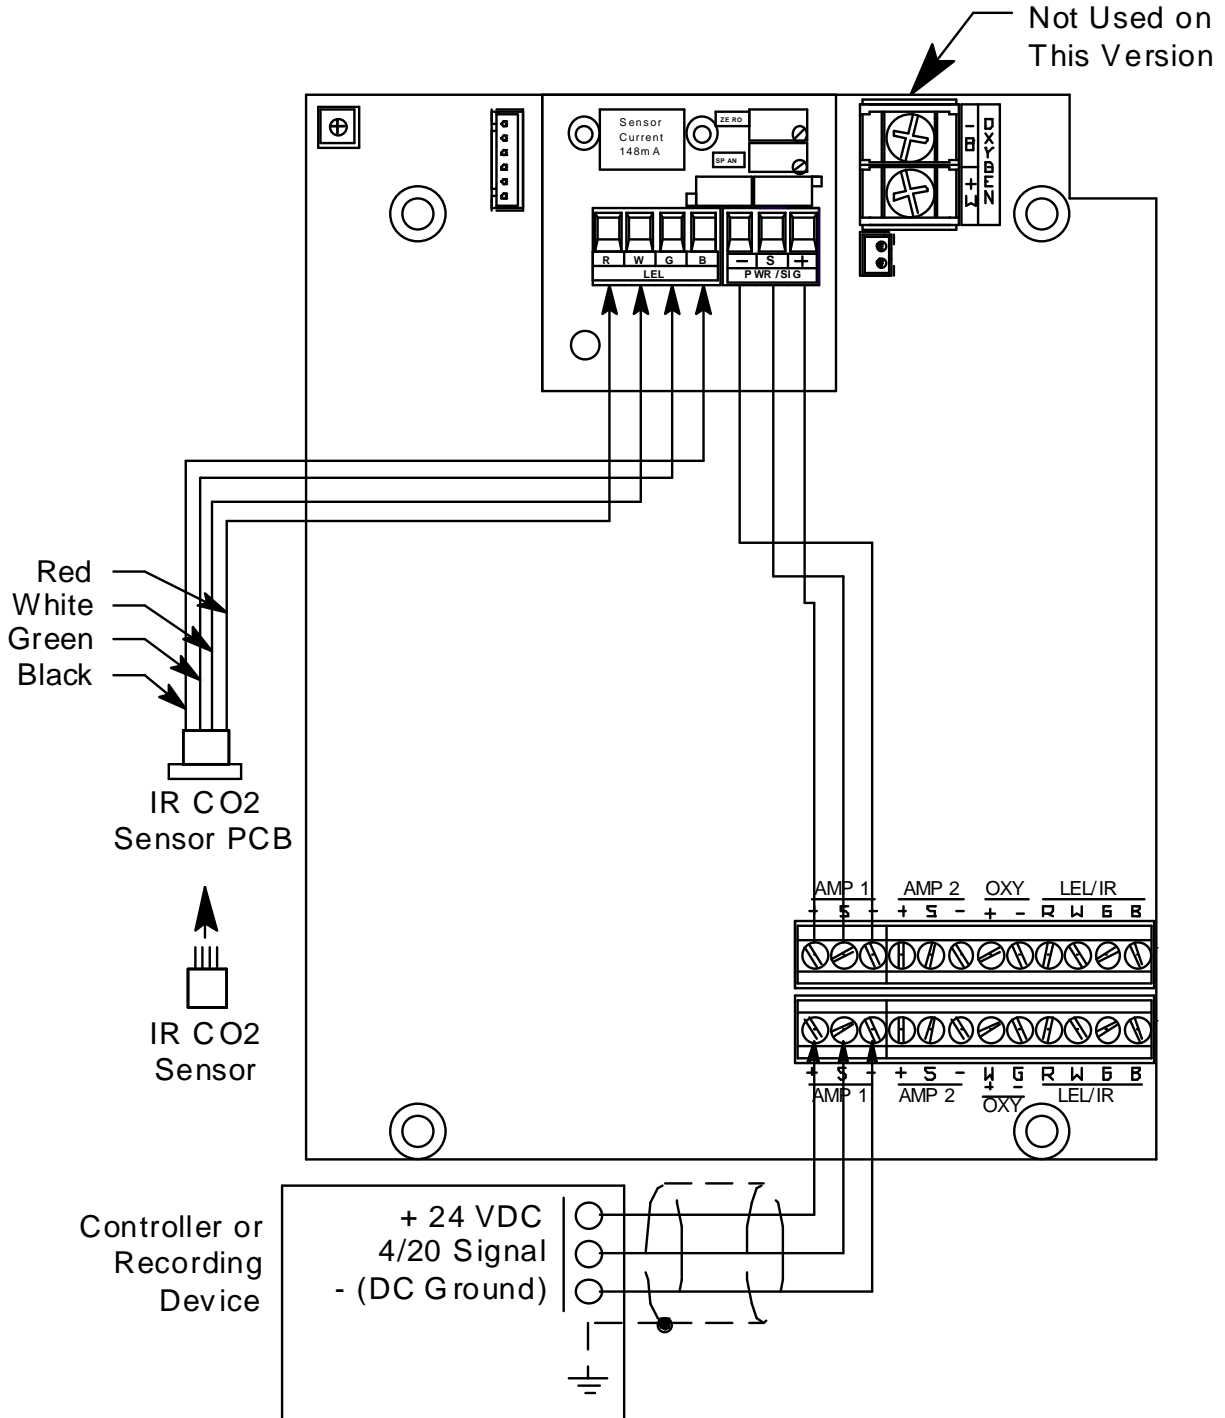

Figure 5: Wiring the Sample-Draw Detector to a Controller
5. Connect the cable to the sample-draw detector’s interconnect terminal strip as shown in Figure 5.
- Connect the wires to the applicable detector/transmitter terminal strip at the controller as shown in Figure 5. Refer to the controller operator's manual and the controller detector head specification sheet for the 35-3001A-05-XX for detector/terminal strip connections specific to the controller.